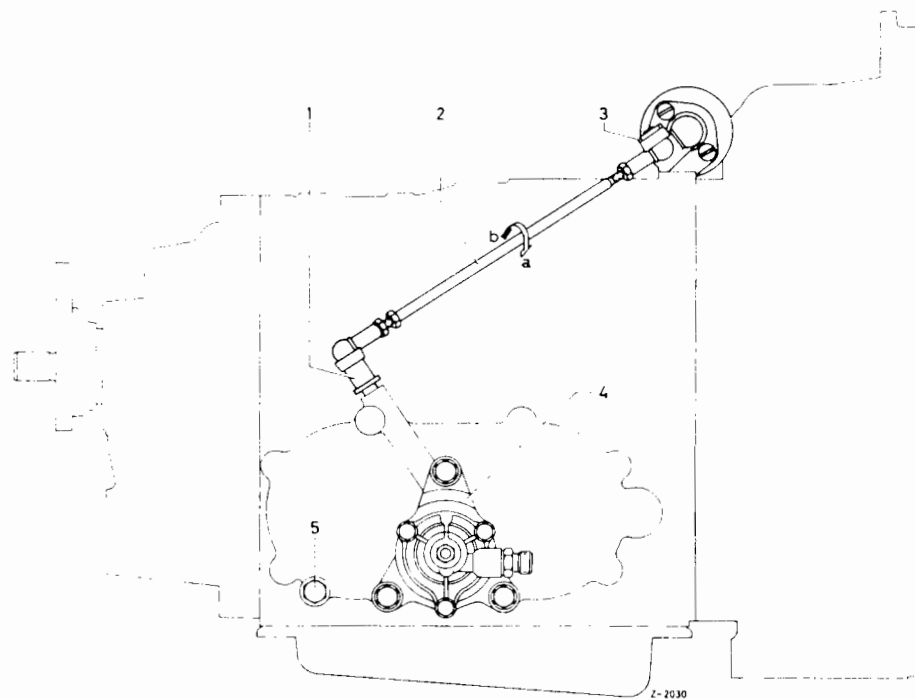

Fig. 27-4/6
For this purpose, connect pressure gauge (84 p.s.i. capacity min.) to test connection (5) (Fig. 27-4/6), disconnect vacuum line from modulating pressure control and run engine at idling speed.